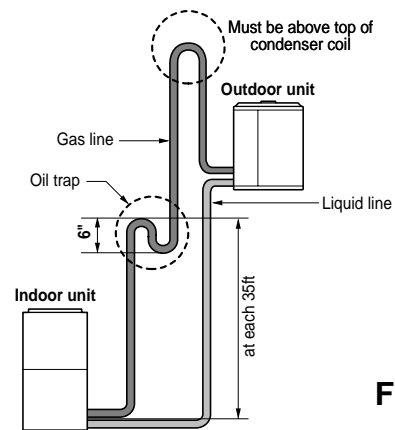

Fig. 3
- For every 35 feet that the outdoor unit is above the indoor unit, an oil trap must be installed (See Figure 3).